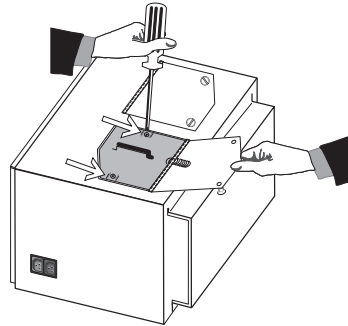

Figure 4.3.
- 3) **REMOVE LAMP:** Loosen the two screws securing the lamp in the lamp module. Holding the lamp door open with one hand, grasp the lamp handle and pull straight up to remove the lamp. (Figure 4.3. and Figure 4.4) *The lamp disconnects from the terminal block much like unplugging something from an outlet.*